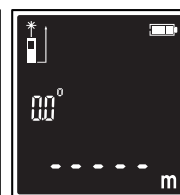

Fig. 5
- Press the button. The laser indication as well as the battery capacity indication will be displayed. (Fig. 5)